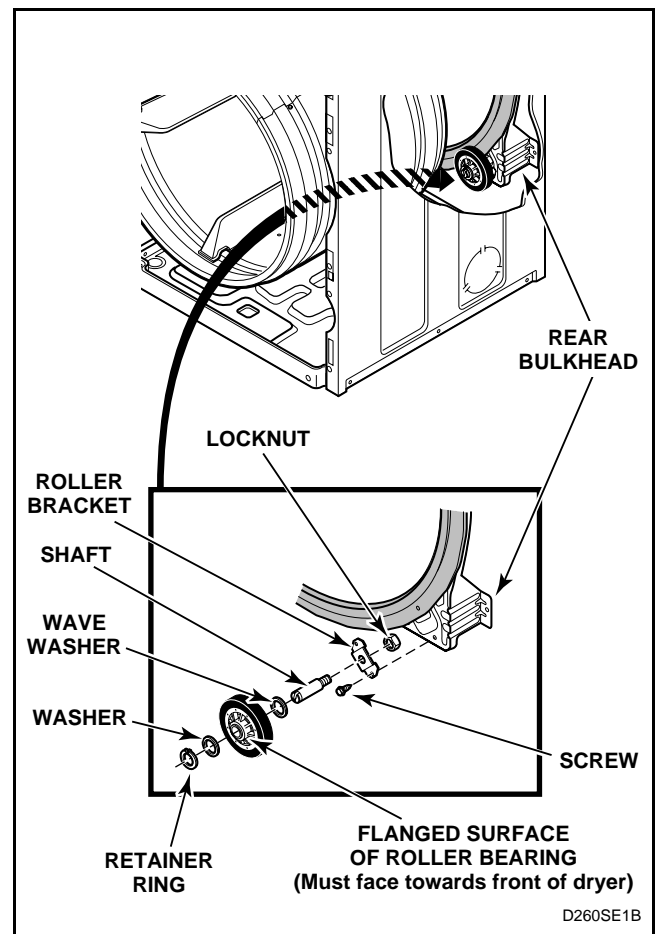

Figure 38
- Pull cylinder forward allowing rear of cylinder to drop down exposing rollers. See *Figure 38*.
- See *Figure 38* for removal of roller from bulkhead.